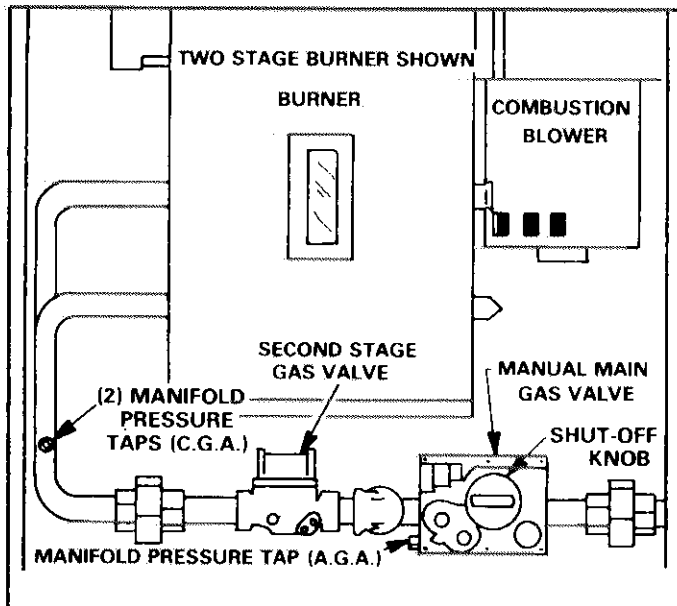

FIGURE 19
- 2 - After line pressure has been checked and adjusted, check manifold pressure during high fire operation. Refer to Figure 19 for location to take readings. The readings must correspond to Table 7.